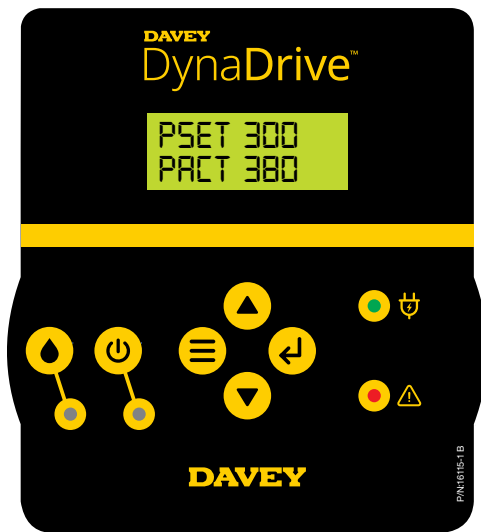

Figure 6.12
- Press ◀ **Enter button**, or ≡ **Menu button** to return to the **HOME SCREEN**, see figure 6.12;